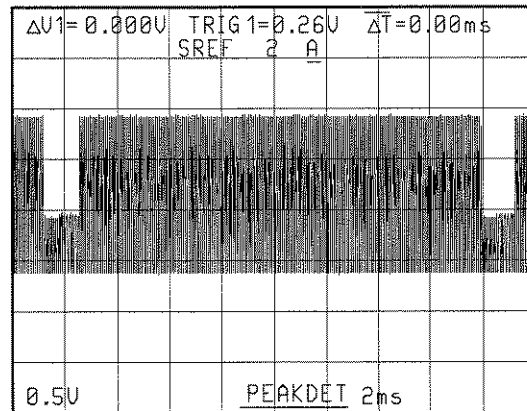

Figure 3-28: Multi-burst Signal Triggered in TV Field
- ☐ **Step 5:** Adjust the **A TRIGGER LEVEL** to stabilize the display (Figure 3-28).